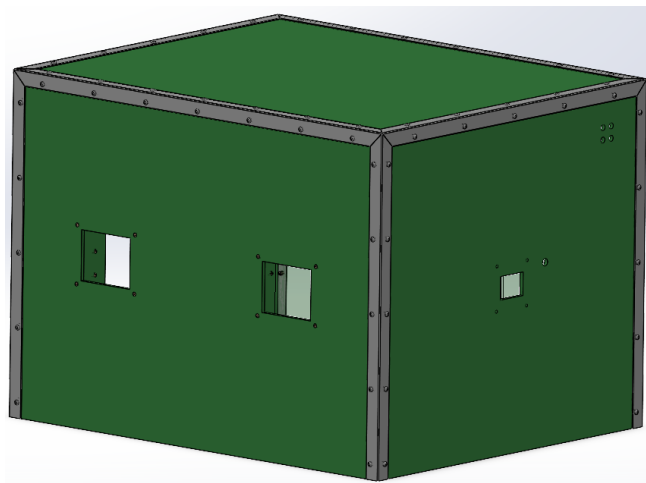

Fig. 12. Back acrylic installed onto the chamber assembly.
6. Screw the back acrylic to the chamber assembly, see Fig. 12.